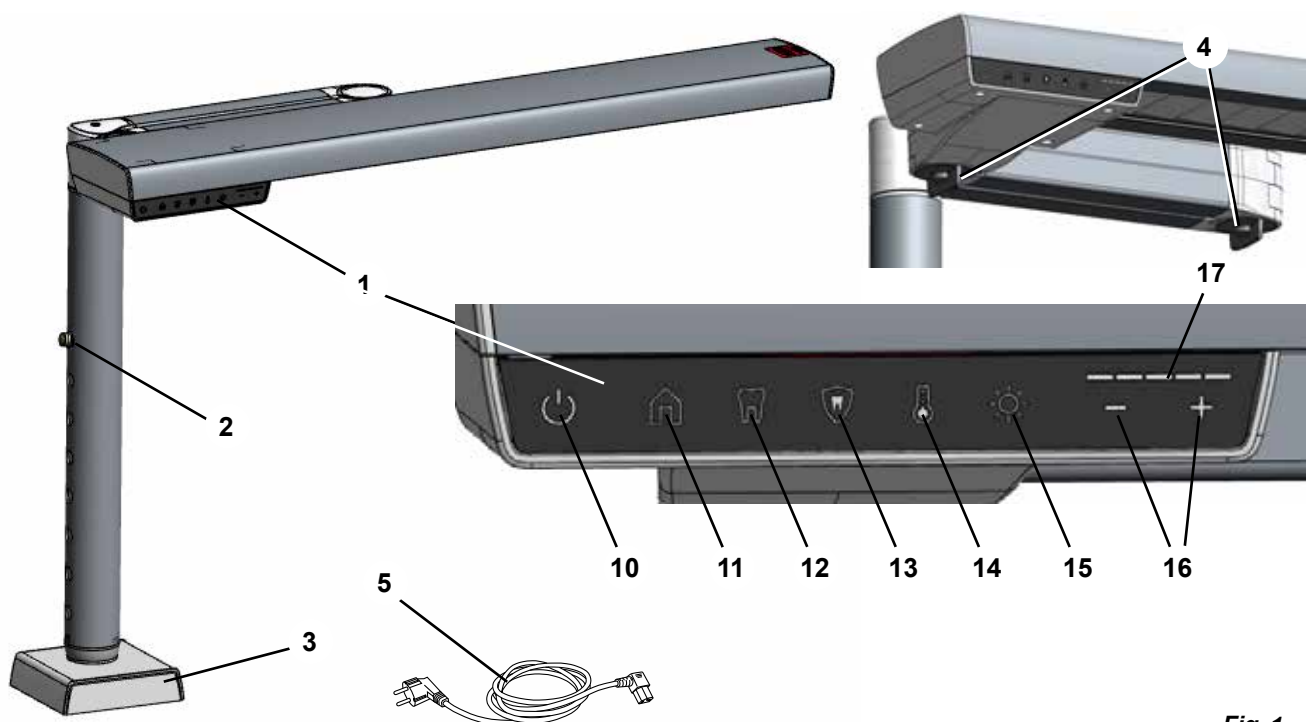

Fig. 1
- ⇒ Press in the height adjustment lock (2, Fig. 1) and pull out the inner tube on the base to the maximum position.
i To determine the appropriate mounting location, loosen the joint lock (4, Fig. 1) and check that you can move the workstation light to the optimal position described above (Chapter 4.2.1).
- ◆ The brightness button (15, Fig. 1) lights up.
- ◆ The current brightness value is displayed in the intensity display (17, Fig. 1).